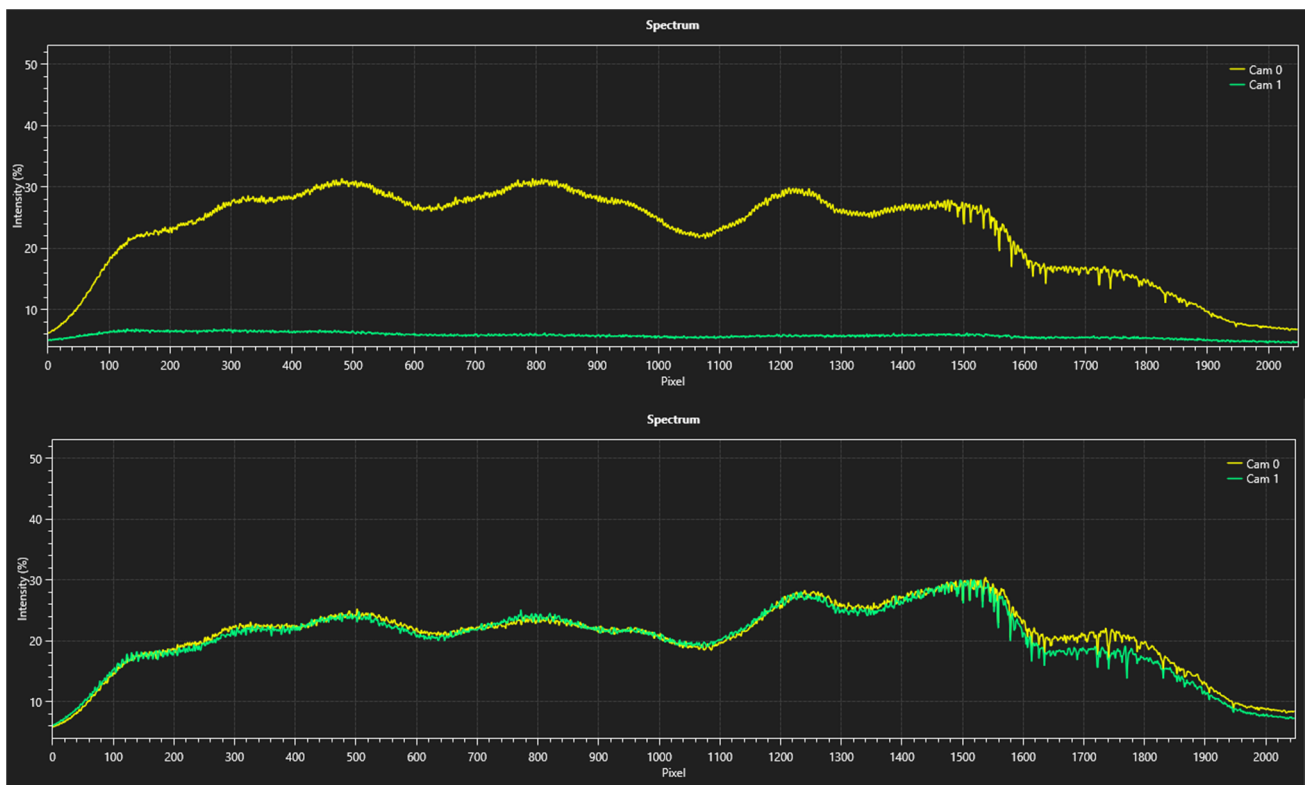

Figure 29 Spectral distribution on the two cameras during the adjustment of the sample beam (top) and the reference beam (bottom)
3. Place a mirror in the focus of the sample arm. Rotate the quarter-wave plate such that the intensity on Camera 0 is maximum and the intensity on Camera 1 is minimum. The corresponding spectra are shown in Figure 29 on the top.
- Rotate the quarter-wave plate in the reference arm such that the spectra on both Camera 0 and Camera 1 overlap exactly. The corresponding spectra are shown in Figure 29 on the bottom.